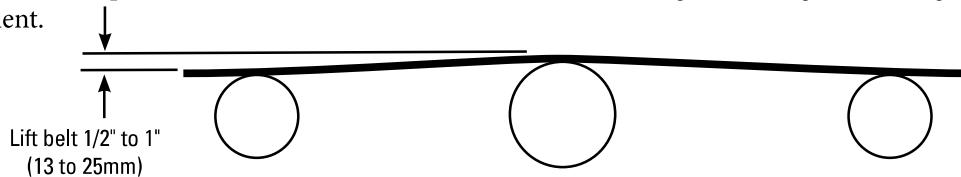

Fig. 5
9. **Determine the roll height or drop of leading and trailing idler.** Using the adjustable mounting brackets, alter the height of the unit to provide $1/2"$ to $1"$ (13 to 25mm) lift on the belt (Fig. 5). Lifting the belt higher can restrict pivot/tilt movement.